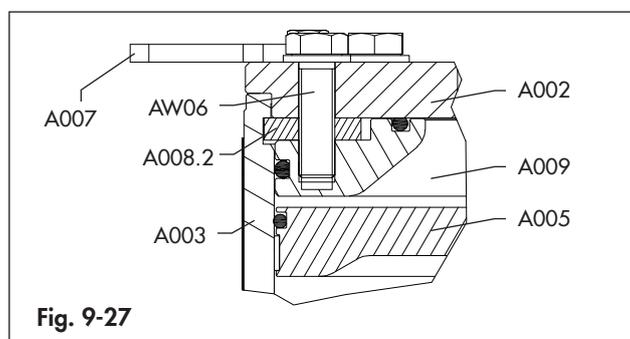

Fig. 9-27
- Place the flange (A009) into the cylinder overpassing the sectors (A008.2) housing as per Fig. 9-27.